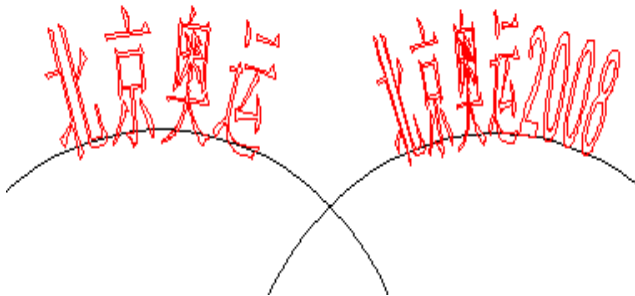

Figure 4-13 Comparison of Two Texts (Limiting Angle is 45 degrees.)
Normal mean text will be parallel with the curve, as fig 4-13.
Fig 4-13 normal arrange
Base means the base line of the text is superposition with the curve, as fig 4-13.
put text on the other side of the curve, after this function, fig 4-13 will like fig 4-19.
**Angle range limit:** When checked, no matter how much chars that users type in, the text will be limited in the angle range. (Figure 4-13)